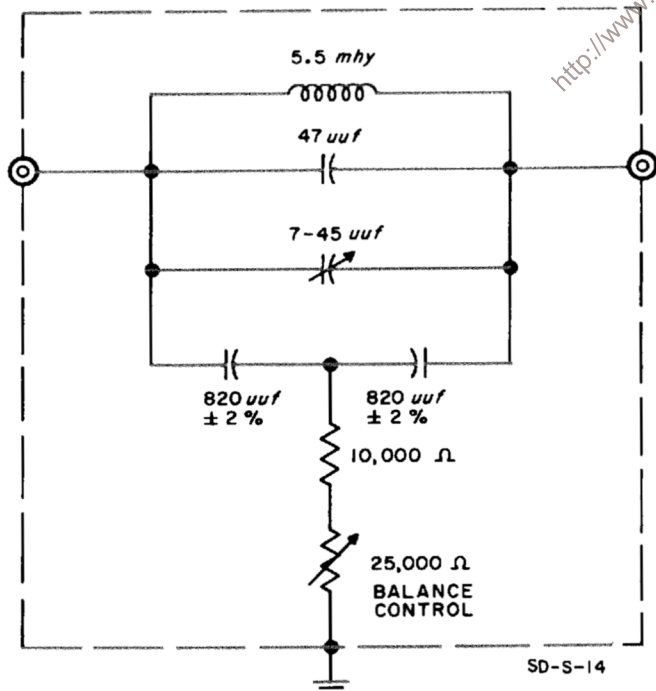
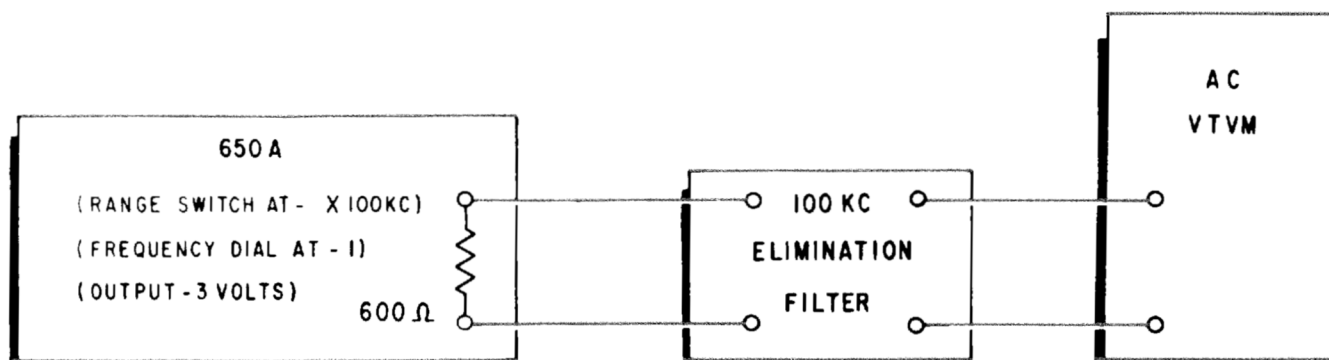

Figure 4-2. 100 kc Filter
Figure 4-4. Equipment for High Frequency Distortion Measurement
g. Elimination filter for 100 kc as shown in Figure 4-2. Any coil and capacitor combination can be used that will resonate at 100 kc. If a different inductor is used, the value of the balance control and series resistor will have to be changed. The inductor shown in Figure 4-2 can be obtained under  Stock No. 48-3.
- D. Connect 100 kc filter shown in Figure 4-2 across output terminals and an external ac meter across filter output terminals. The meter used must be capable of accurately measuring frequencies that are harmonics of 100 kc. See block diagram given in Figure 4-4.